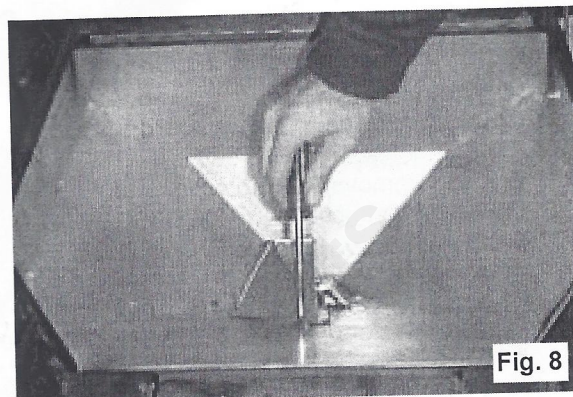

Fig. 8
9. Place the new Photoeye cover over the wires and locate the tab into the slot on the auger cover. Attach the cover to the hopper with (4) tek screws (see Fig. 8).